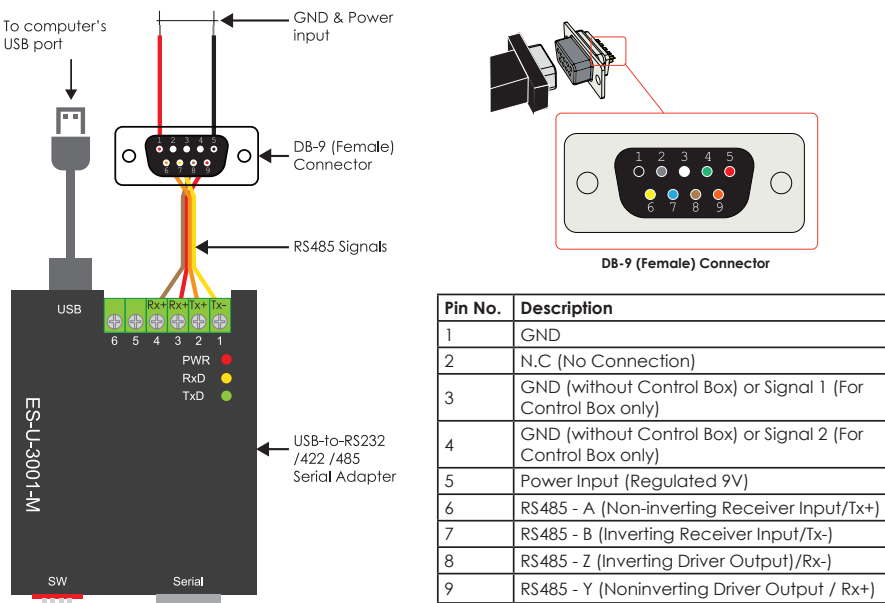

Figure 13. Constructed custom cable and pinout of the DB9 (Female) connector
1. Prepare the custom cable. The constructed custom cable and the pinout of the DB9 (Female) connector is shown in Figure 13.